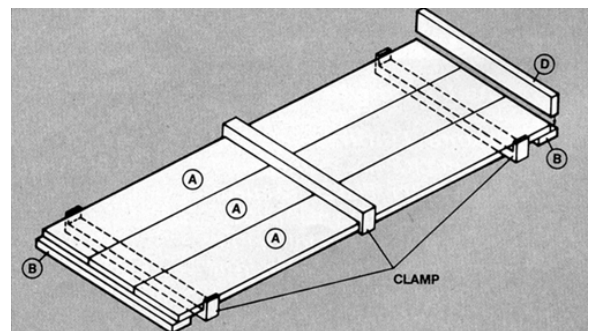

Figure 1
3: Temporarily hold the Sides and Ends together using bar clamps. Position a clamp at each end of your stock, open-side up...with your stock face side down...and a third clamp across the center. This will help to keep the surfaces flush and make it easier for you to mount the 2” wide vertical Braces on the ends of the Sides. Hold an end Brace (D) in position temporarily to ensure the proper alignment of the two end Braces (B) during assembly as shown in Figure 1. Drill 7/64” screw pilot holes and use a countersink to allow the screw heads to sit flush with all board surfaces. Use six 1-1/4” x #8 wood screws and glue to hold each end Brace in position.